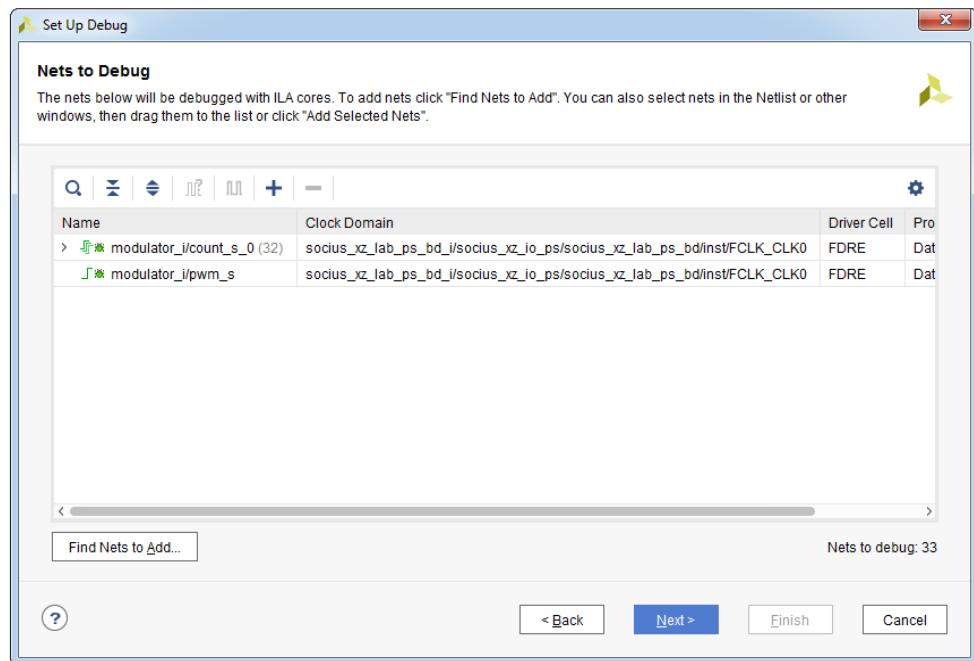

Figure 11.23: Nets to Debug dialog box
22. In the **Nets to Debug** dialog box you will find nets that you have marked for debugging, see Figure 11.23.